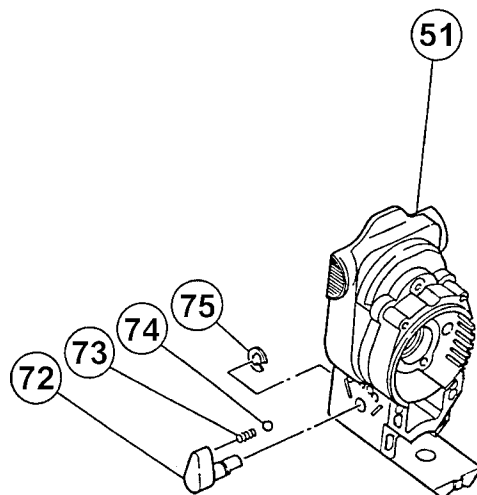

Fig. 11
(9) Disassembly of the Change Knob [72] from the Gear Cover [51] (Fig. 11)